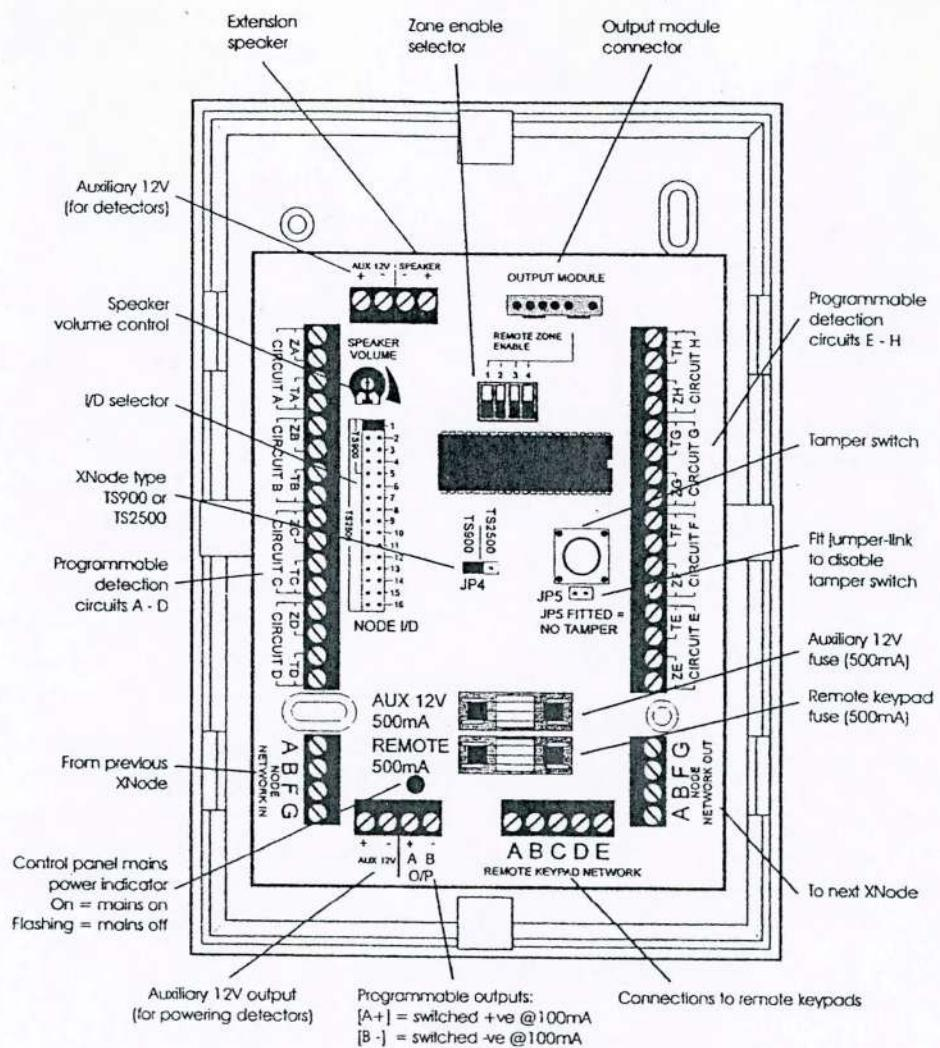

Figure 16. XNode Layout
2. If the XNode is being fitted inside the control panel you may remove the XNode PCB from its base and secure it to the base of the control panel using self adhesive feet. If required, the tamper switch can be disabled by fitting the jumper link across JP5, see *Figure 16*.
6. If required, connect the extension loudspeaker to the appropriate terminals. The volume of the speaker is controlled by the speaker volume control, see *Figure 16*.